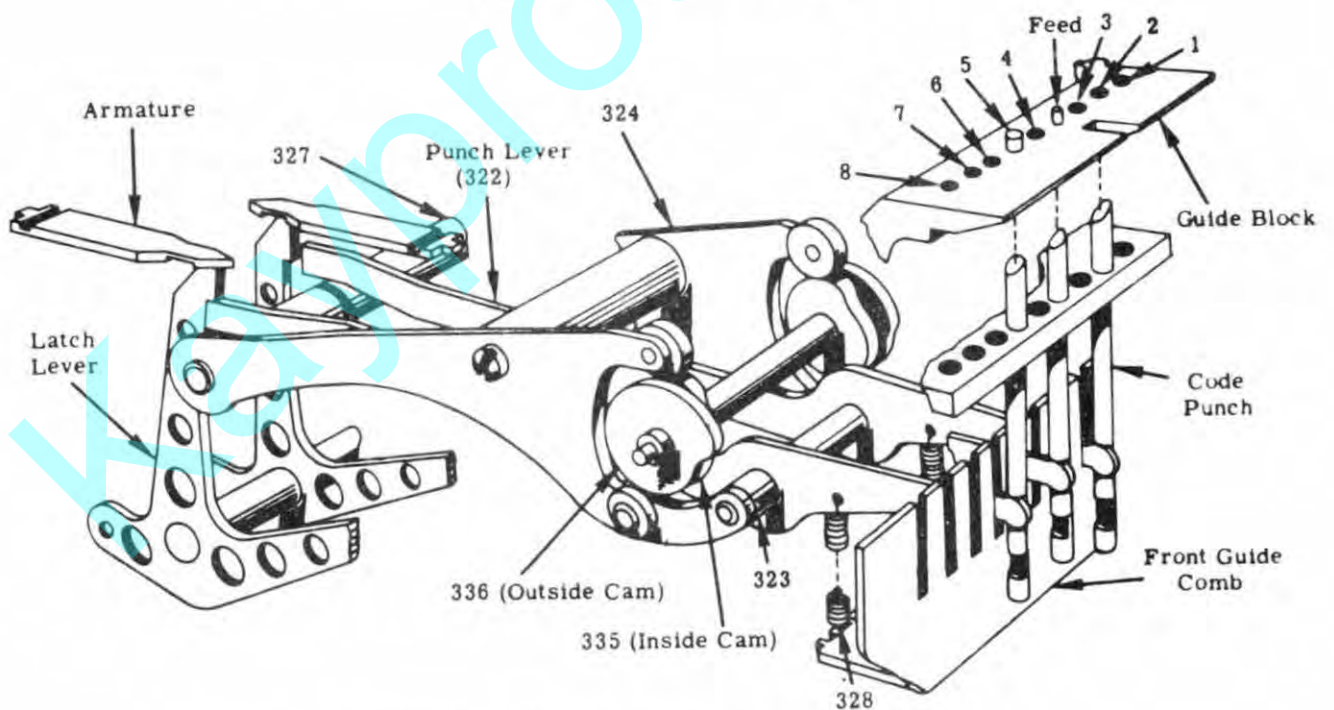

Figure 29- Latch, Operating Lever and Punch
Following the locking of the punch latch levers, the punch lever and frame assembly (324) begins to rise by action of cam 335 (Figure 29). During the upward movement of lever and frame assembly (324), the rod (323), on which the punch levers (322) are pivoted, is also moved upward. If the left hand ends of the punch levers (322) are not held down against the stop rod (327) by their respective latch levers (342), then the left hand end will be moved upward while the right hand end will be held down by the tension of spring 328. On the other hand, if the left hand ends of the punch levers are engaged by their respective latch levers and held against stop 327, the upward movement of rod 323 will move the right hand end of the punch levers upward. This upward movement of the punch levers will carry their respective code punches upward through the tape, punching a code for those